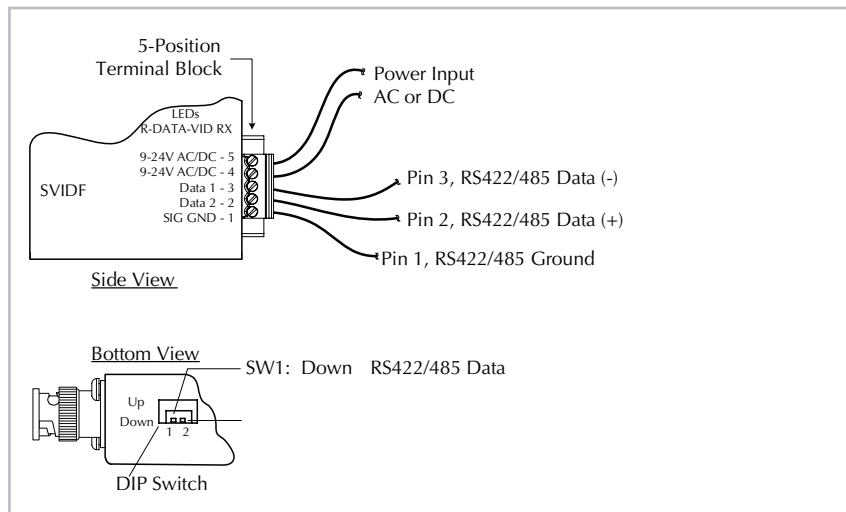

Figure 6: RS422/485 Transmitter Data TB Wiring and DIP Switch Settings
1. Loosen the 5 screws on the TB, shown in Figure 6.
3. Set DIP switches “1 and 2” DOWN for RS422/485 data and termination. See Figure 6.